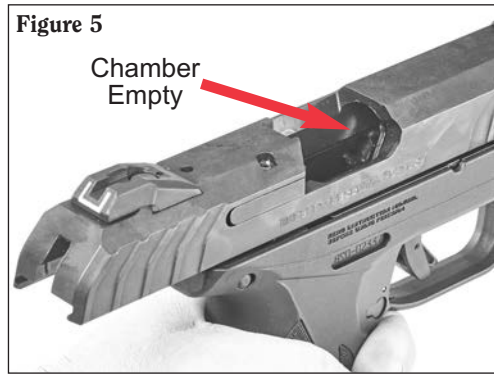

**Figure 3**
1. **Keep pistol pointed in a safe direction.** Press the magazine latch and withdraw the magazine from the frame (see Figure 3).